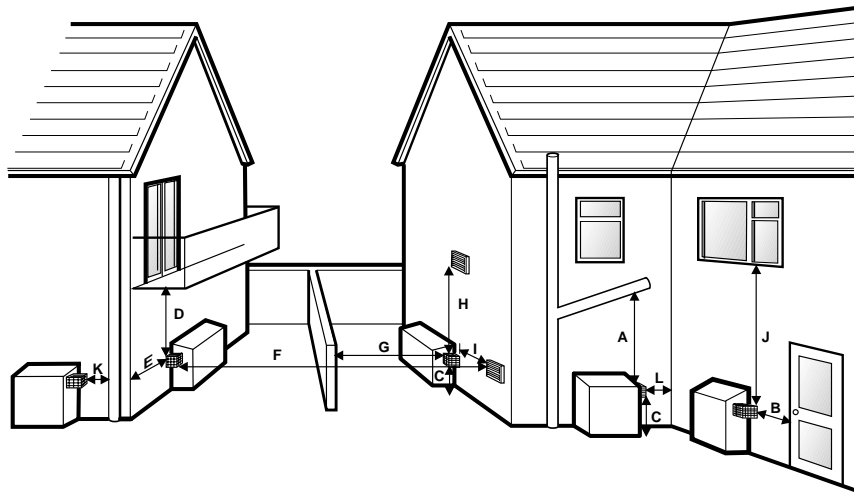

Fig. 3 - Flue terminal positions
- The Module must be positioned such that the required clearances from the low level flue outlet, as shown in Fig. 3, are achieved.